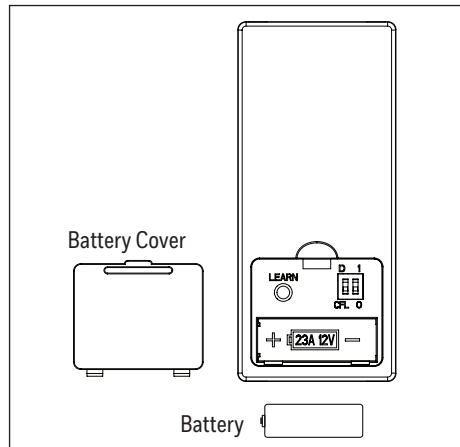

Figure 4.2
2. Use a flat-head screwdriver, if necessary, to remove the battery cover from the back of the remote found in remote pack. Insert the battery into the remote; ensure polarity of battery matches the polarity indicated in the battery compartment -- positive (+) to positive (+) and negative (-) to negative (-). Replace the back cover and press the fan on/off button on the remote to ensure the LED indicator illuminates and the remote turns on the fan (Figure 4.2).